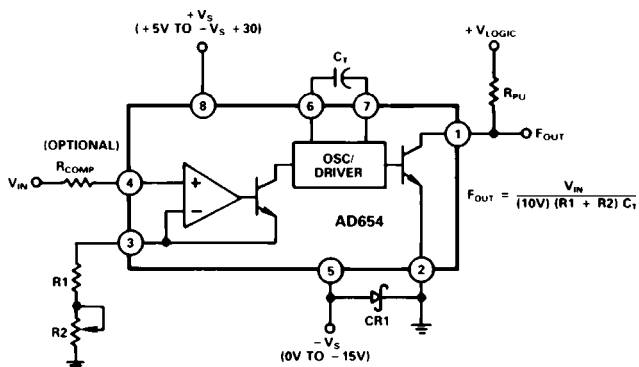

Figure 1. Standard V-F Connection for Positive Input Voltages
The AD654's block diagram appears in Figure 1. A versatile operational amplifier serves as the input stage; its purpose is to convert and scale the input voltage signal to a drive current in the NPN follower. Optimum performance is achieved when, at the full-scale input voltage, a 1 mA drive current is delivered to the current-to-frequency converter (an astable multivibrator). The drive current provides both the bias levels and the charging current to the externally connected timing capacitor. This "adaptive" bias scheme allows the oscillator to provide low non-linearity over the entire current input range of 100 nA to 2 mA. The square wave oscillator output goes to the output driver which provides a floating base drive to the NPN power transistor. This floating drive allows the logic interface to be referenced to a level other than $-V_{\text{S}}$.
In the connection scheme of Figure 1, the input amplifier presents a very high (250 MΩ) impedance to the input voltage, which is converted into the proper drive current by the scaling resistors at Pin 3. Resistors R1 and R2 are selected to provide a 1 mA full-scale current with enough trim range to accommodate the AD654's 10% FS error and the components' tolerances. Full-scale currents other than 1 mA can be chosen, but linearity will be reduced; 2 mA is the maximum allowable drive. The AD654's positive input voltage range spans from $-V_S$ (ground in sink supply operation) to four volts below the positive supply. Power supply rejection degrades as the input exceeds $(+V_S - 3.75 \text{ V})$ and at $(+V_S - 3.5 \text{ V})$ the output frequency goes to zero.
As indicated by the scaling relationship in Figure 1, a 0.01 μF timing capacitor will give a 10 kHz full-scale frequency, and 0.001 μF will give 100 kHz with a 1 mA drive current. Good V/F linearity requires the use of a capacitor with low dielectric absorption (DA), while the most stable operation over temperature calls
for a component having a small tempco. Polystyrene, polypropylene, or Teflon* capacitors are preferred for tempco and dielectric absorption; other types will degrade linearity. The capacitor should be wired very close to the AD654. In Figure 1, Schottky diode CR1 (MBD101) prevents logic common from dropping more than 500 mV below $-V_S$. This diode is not required if $-V_S$ is equal to logic common.
The AD654 was designed to be used with a minimum of additional hardware. However, the successful application of a precision IC involves a good understanding of possible pitfalls and the use of suitable precautions. Thus $+V_{IN}$ and R_T pins should not be driven more than 300 mV below $-V_S$. Likewise, Logic Common should not drop more than 500 mV below $-V_S$. This would cause internal junctions to conduct, possibly damaging the IC. In addition to the diode shown in Figures 1 and 2 protecting Logic Common, a second Schottky diode (MBD101) can protect the AD654's inputs from "below $-V_S$ " inputs as